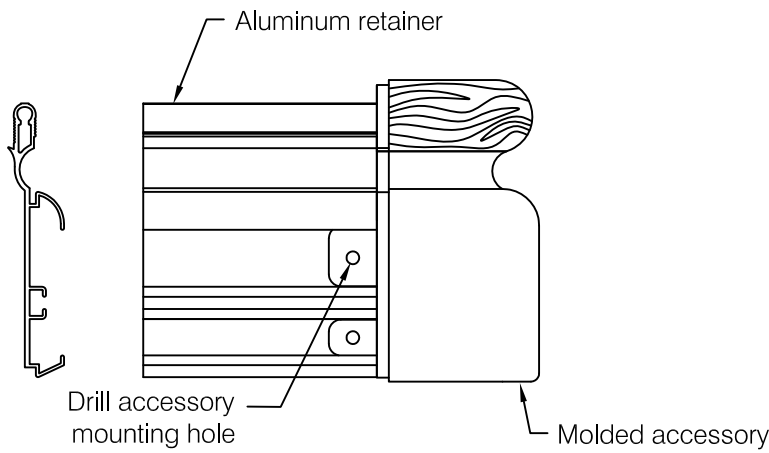

fig 3
- Step 5:** Insert molded accessories into end of retainer, press firmly to ensure molded part is seated squarely against the end of the retainer. Drill accessory mounting holes using the accessory as the template, see **fig 3**.